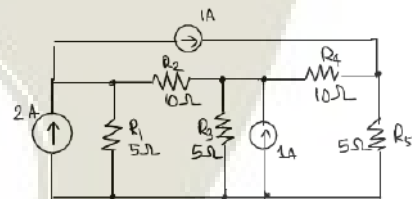

Figure 4: Figure for question 12 (b).
- (b) Find the total power dissipated in the circuit shown in Fig. 4 by node analysis (graph based). (8)